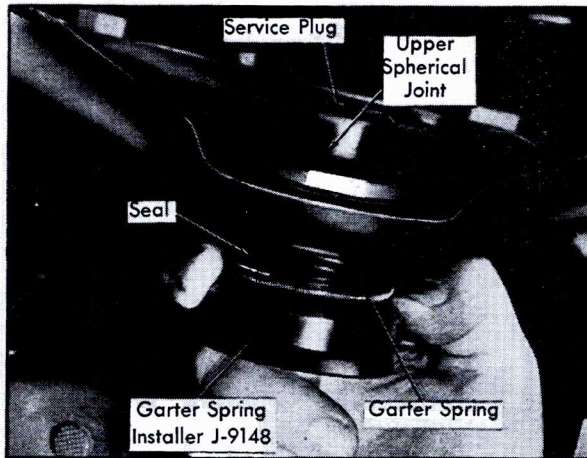

Fig. 3-13 Installing Spring on Upper Spherical Joint Seal
h. Install spring on seal using Garter Spring Installer, J-9148, Fig. 3-13. Make certain that spring secures lip of seal in recess all around joint housing.